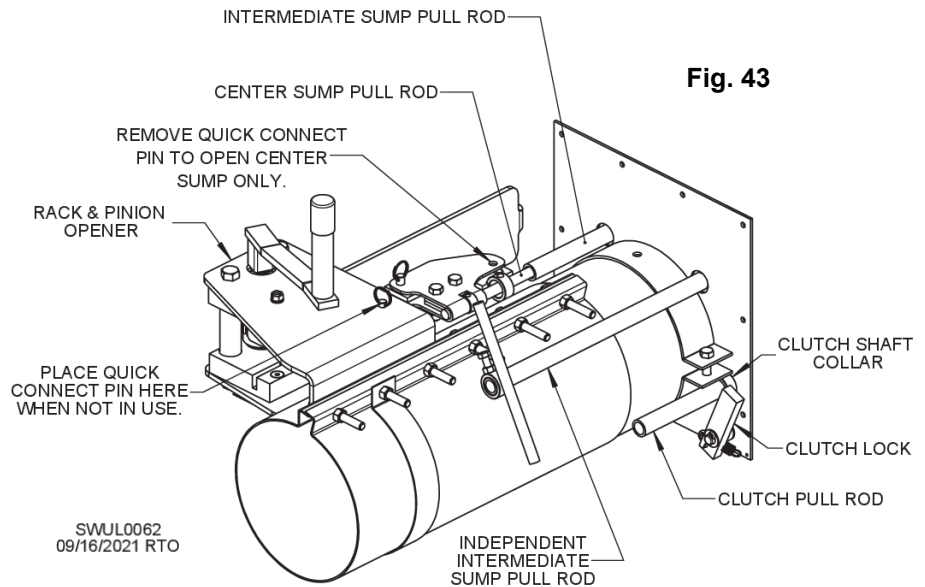

Fig. 43
1. Start horizontal (and vertical if applicable) unload auger(s). If not done already, remove quick-connect pin that connects rack & pinion opener to intermediate sump pull rod. See Fig. 43. Turn handle clockwise to open center sump. Unload grain from only center sump until gravity flow stops.
2. Turn handle counterclockwise to close center sump and then insert/replace quick-connect pin for intermediate sumps. Turn handle clockwise to open center and intermediate sumps, allowing additional gravity flow into unloading auger. If bin has an independent intermediate sump, open it by pulling rod shown in Fig. 43.